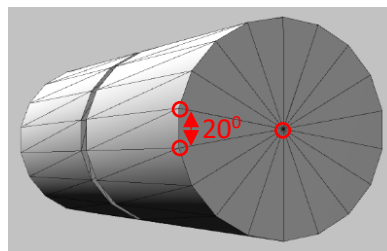

Figure 16
- 6) If the last point from the cycle, then we make triangles of 3 points (the 2nd point added in paragraph 1 and two points with an angle of 20 degrees), Figure 16.